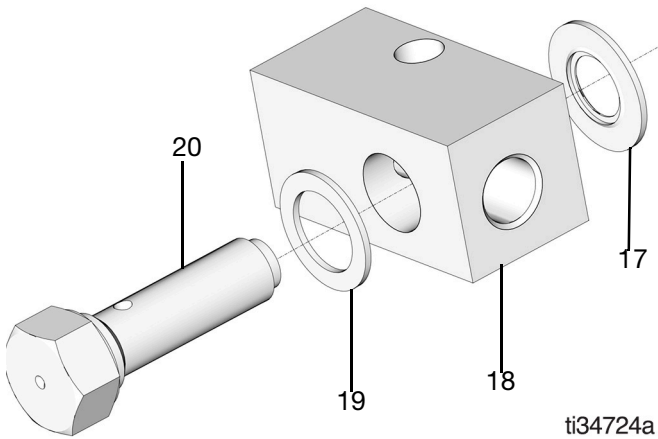

FIG. 3
- Remove steel gasket (19), manifold (18) and bonded washer (17) from adapter bolt (20) (FIG. 3).